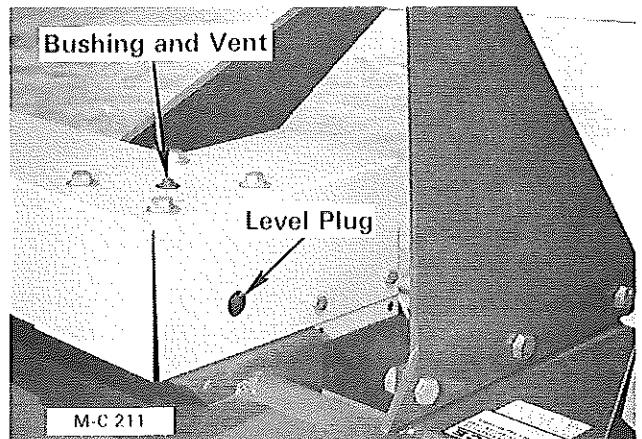

Figure 18
1. Remove the oil level plug on the right side of the gear box, see Figure 18. The oil level should be even with the bottom of the level plug hole. If not, remove the bushing and vent on the top of the gear box and add Mobilfluid 423 multipurpose transmission lubricant or